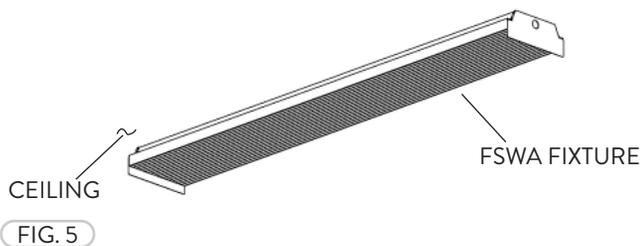

FIG. 5
- 3 Surface Mounted FSWA fixture (Fig. 5).